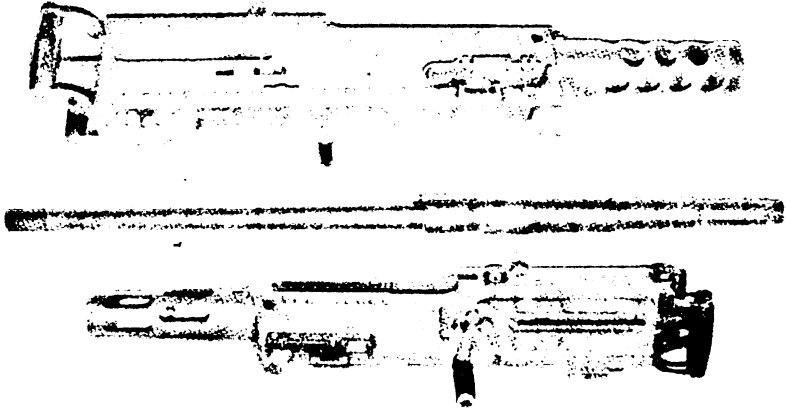

Figure 1
1. Identify The Caliber .50 M-2 HB. (See fig. 1.)